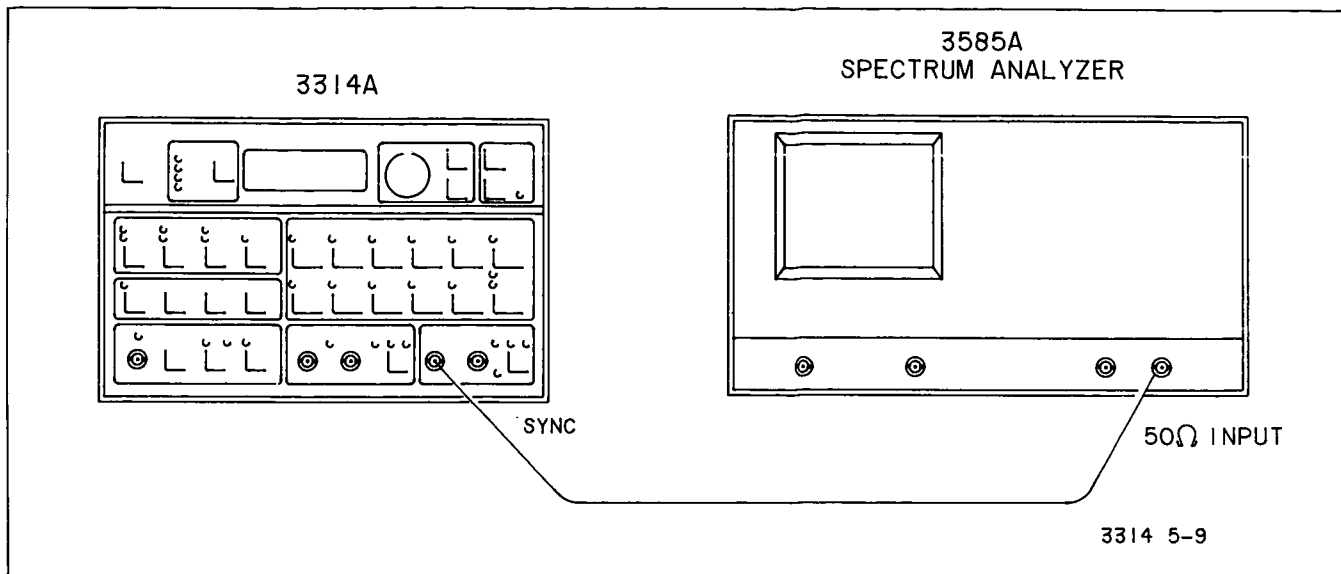

Figure 5-9. Symmetry Adjustment
E. Connect the 3314A to the spectrum analyzer by first removing phono cable A1J8 from the instrument. Second, move the "Sync" cable from A1J1 to A1J2 and connect the 3314A to the analyzer's 50Ω input via the 3314A's "Sync" output. (See Figure 5-9.)